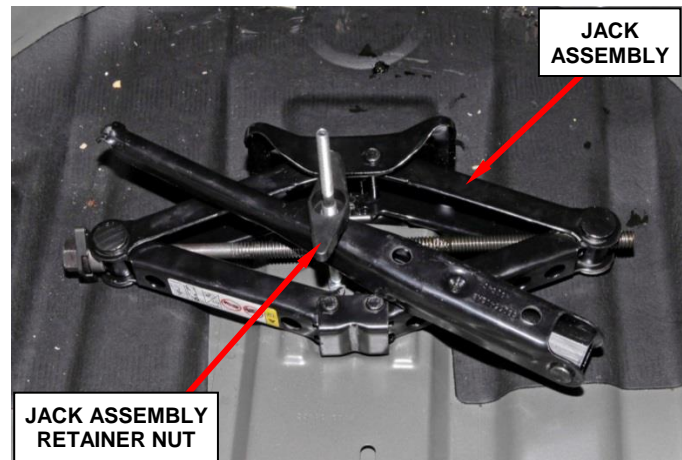

Figure 3 – Vehicle Jack Retainer Nut
6. Remove and save the jack assembly retainer nut (Figure 3).